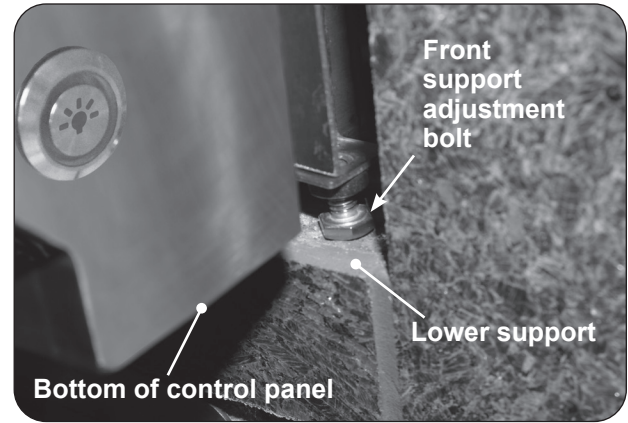

Fig. 26-1 Front support adjustment bolts
3. Rotate the front support adjustment bolts (up or down) until the grill hanger rests flush on the countertop, AND, the adjustment bolts are touching the supporting structure found at the bottom of the cutout (lower support). Use a $\frac{7}{16}$ " open-end wrench as needed. See Fig. 26-1.